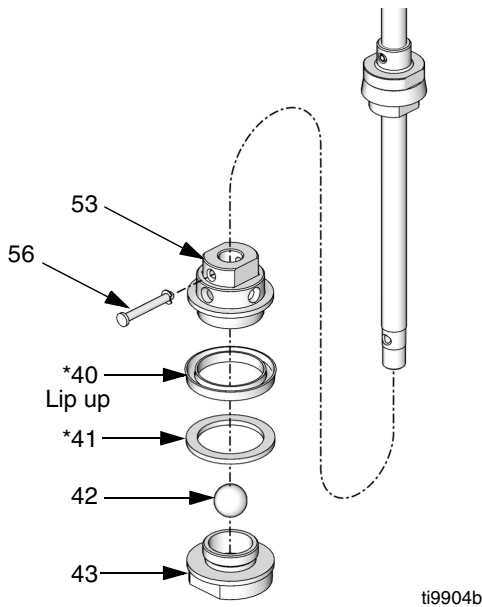

FIG. 20
- Remove pin (56). Remove piston valve assembly. Unscrew piston valve (43) from piston housing (53). Remove wear ring (41\*), u-cup (40\*) and ball (42). Inspect all parts for damage. See FIG. 20.